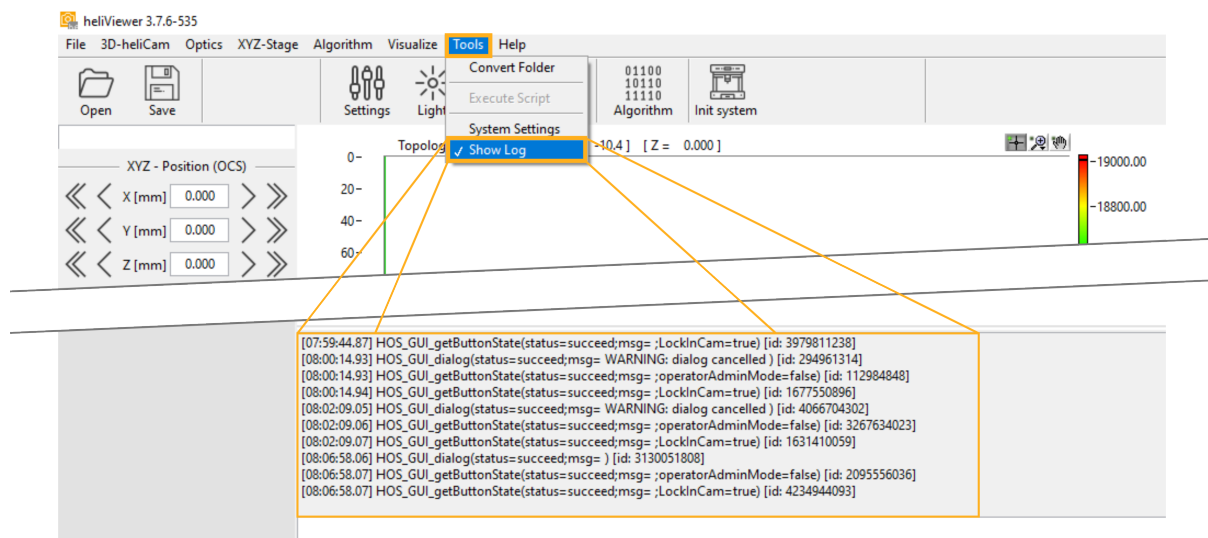

Fig. 3.10: heliViewer™ Log
- *Enabling heliViewer™ Log*: The heliViewer™ can display a log with status messages (see Fig. 3.10). They can often point you to the source of the issue. Please include a copy of the heliViewer™ log when you work with the heliViewer™ and contact Heliotis for support.